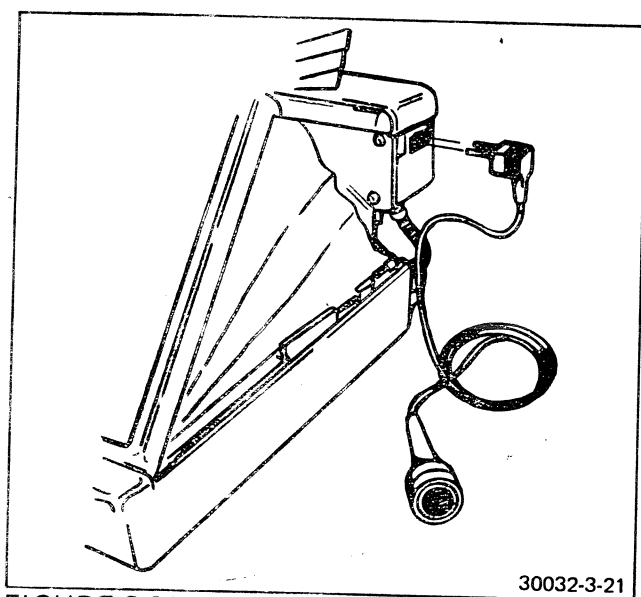

FIGURE 3-21 REMOTE SHUTTER RELEASE
1. If the camera fails to operate, first install a remote shutter release (Figure 3-21) in the remote connector. Operate the remote release. If this causes the camera to function correctly, a faulty S1 switch is indicated.